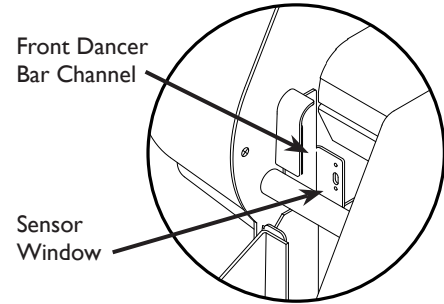

Figure 22. Front Dancer Bar Channel.
5. Make sure the silver front dancer bar is below the sensor shown in *Figure 22*.